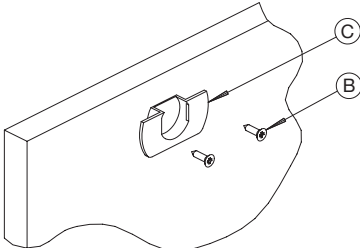

Fig. 2
1. (If not factory installed) Fasten the housings (A) to the back of doors into the factory drilled pockets using fastener (B). (Fig. 2)